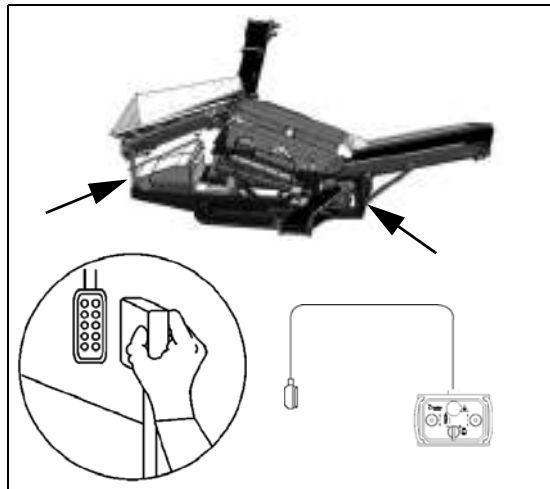

Figure 6.2 Connecting the drive control box
3. Connect the drive control box to one of the alternative cable connectors (Figure 6.2). Switch on the drive control box preselection (A) if using the cable remote. If the machine is equipped with an optional radio remote control box, switch on the radio control preselection (B) from the main control board (Figure below), when driving with the radio control.